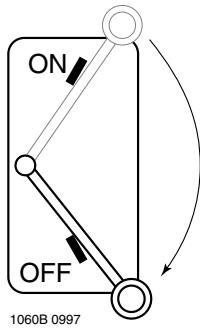

Figure 16 – Disconnect Power
Step 1. Disconnect power to motor (Figure 16).